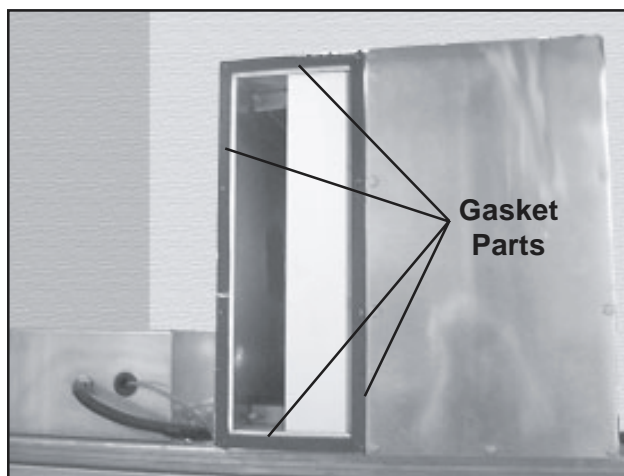

Figure 99. Polyethylene Panel Gasket on Blower Box (intake box shown)
Behind each polyethylene panel is a gasket (Figure 99) to prevent air leakage from the blower box. Each gasket consists of four parts, cut to length, and bonded to the inside of the blower box. The gaskets on the two blower boxes are identical and are removed and installed the same way. It may not be necessary to replace all four gasket segments; you can replace only those segments that are damaged.
6. With a utility knife, peel all old gasket material from the blower opening (Figure 99) and the rear of the polyethylene panel.
3. Press the new gasket in place on the blower box (Figure 99).